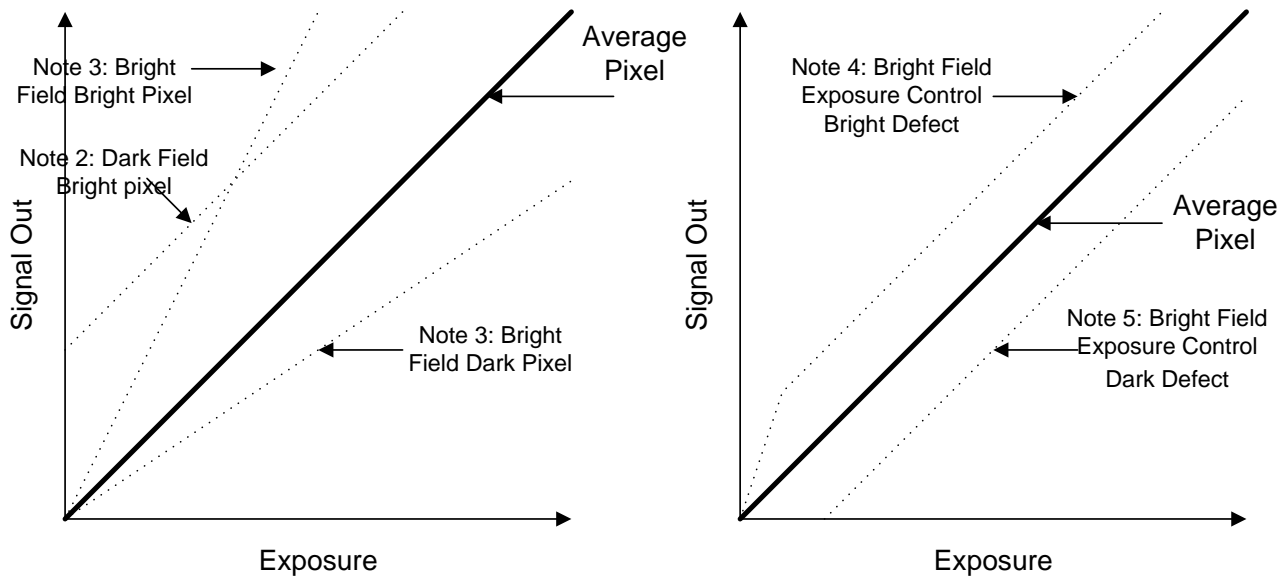

Figure 4: Illustration of Defect Classifications
2. Pixels whose response is greater than the average response by the specified threshold. See Figure 4 below.
3. Pixels whose response is greater or less than the average response by the specified threshold. See Figure 4 below.
4. Pixels whose response deviates from the average pixel response by the specified threshold when operating in exposure control mode. See Figure 4 below.